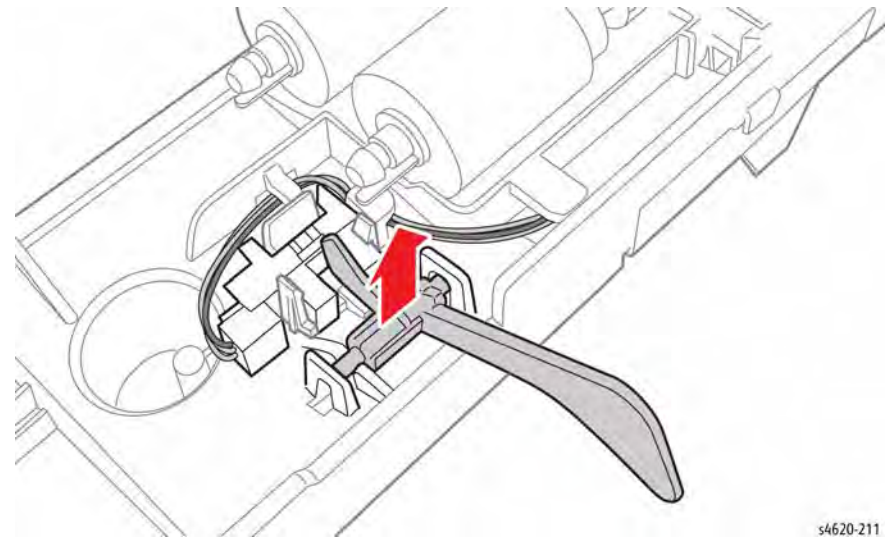

Figure 3 Remove the No Paper Sensor Actuator
13. Turn the assembly over and release the actuator shaft from the Feed Assembly, Figure 3.